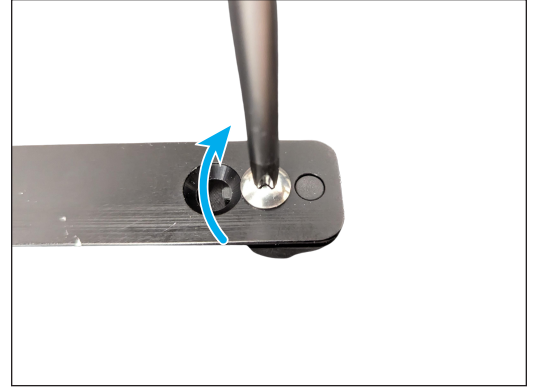

Fig. 7
4. Insert the screw into the hole and tighten clockwise with Phillips head screwdriver. The rubber will hold the hex nut. (Fig. 7)